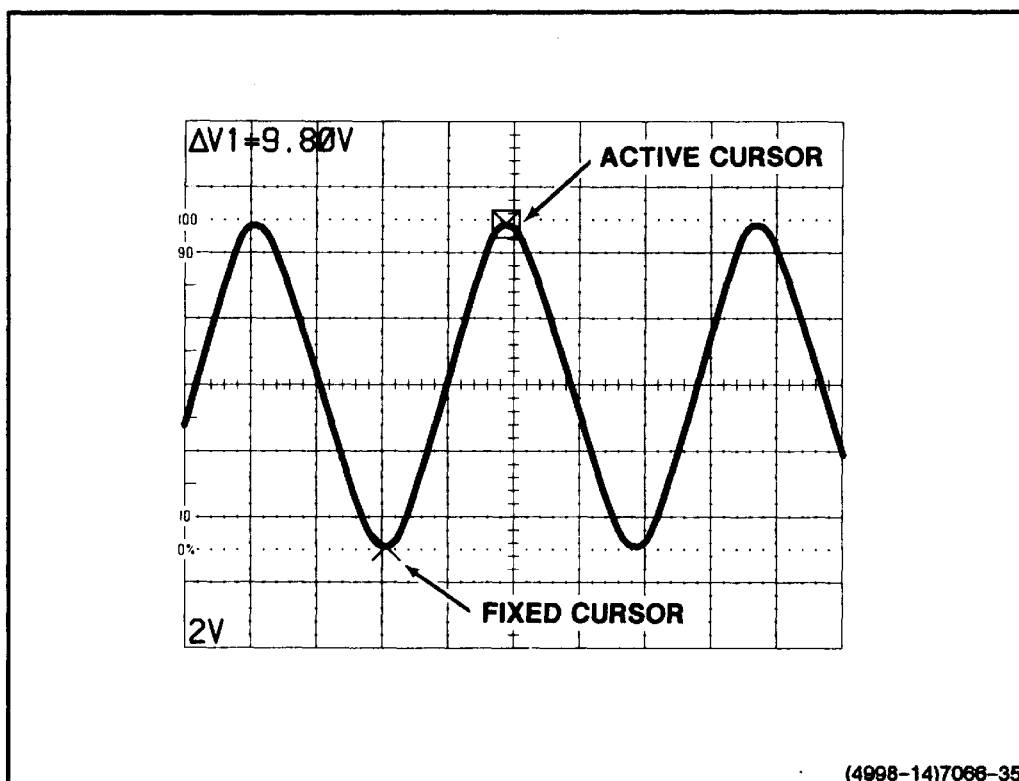

Figure 6-10. Ac peak-to-peak voltage, cursor method.
7. Push in the CURSORS knob (SELECT C1/C2) to select the other cursor, and use the CURSORS control to move the cursor to the opposite peak of the waveform (see Figure 6-10).